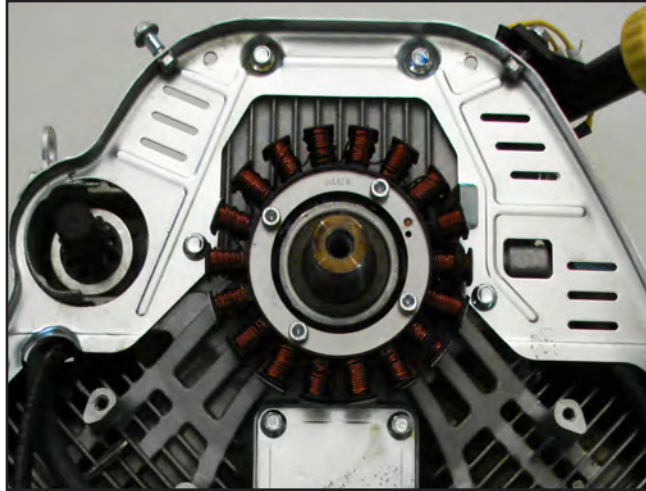

Figure 29
1. Place the lower baffle on the engine block while holding the stator wires in recess of the crankcase (Figure 29).